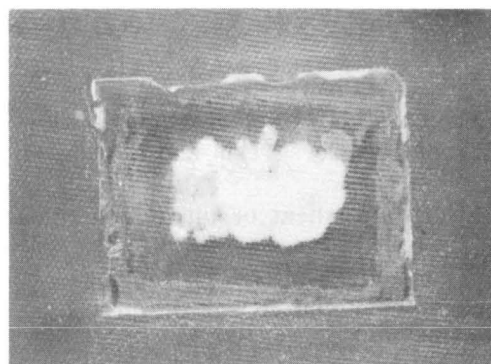
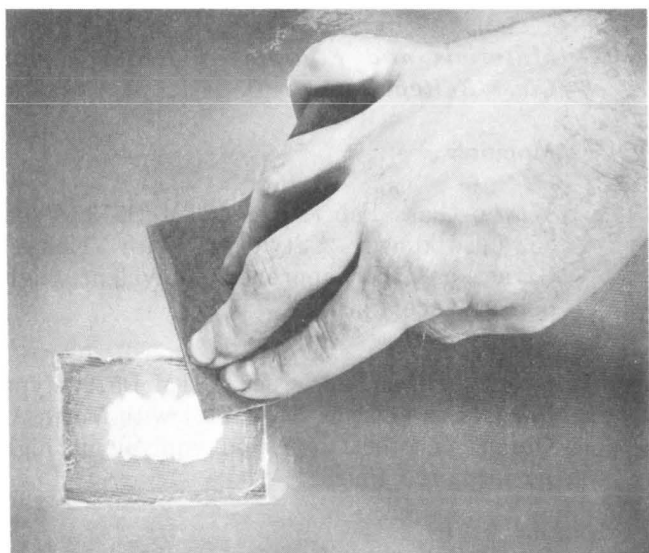

Fig. 18—Completed Class D Repair
Fig. 17—Smoothing Rough Areas
5.4 When the entire weather cover repair is completed, strip off the plastic film and masking tape. Jagged ridges of cured resin can then be sanded smooth (Fig. 17), using care to prevent cutting through the resin skin into the glass fibers. If this resin skin is broken, the abraded area must be recoated with fresh resin mix, covered with plastic film, scraped, and heat cured. (See Fig. 18.)